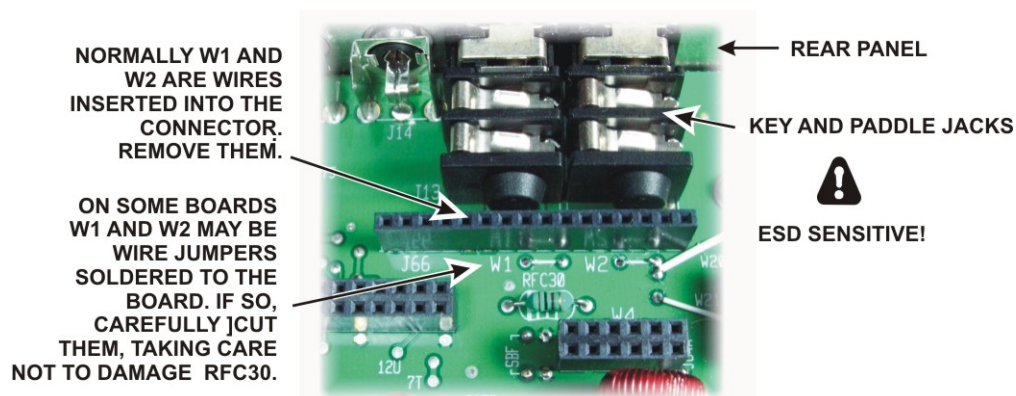

Figure 6. Removing Jumpers W1 and W2.
- Remove jumpers W1 and W2. The jumpers may be wires plugged into connector J66, or they may be wire jumpers soldered to pads on the RF board (see Figure 6). If soldered to the board, take care not to lose any pieces of wire inside the K3. No more than 1/8" (3mm) of lead length should be left to avoid the possibility of shorting to a nearby circuit. *Take care to identify the correct jumpers. Do not cut nearby jumpers W20 or W21!*